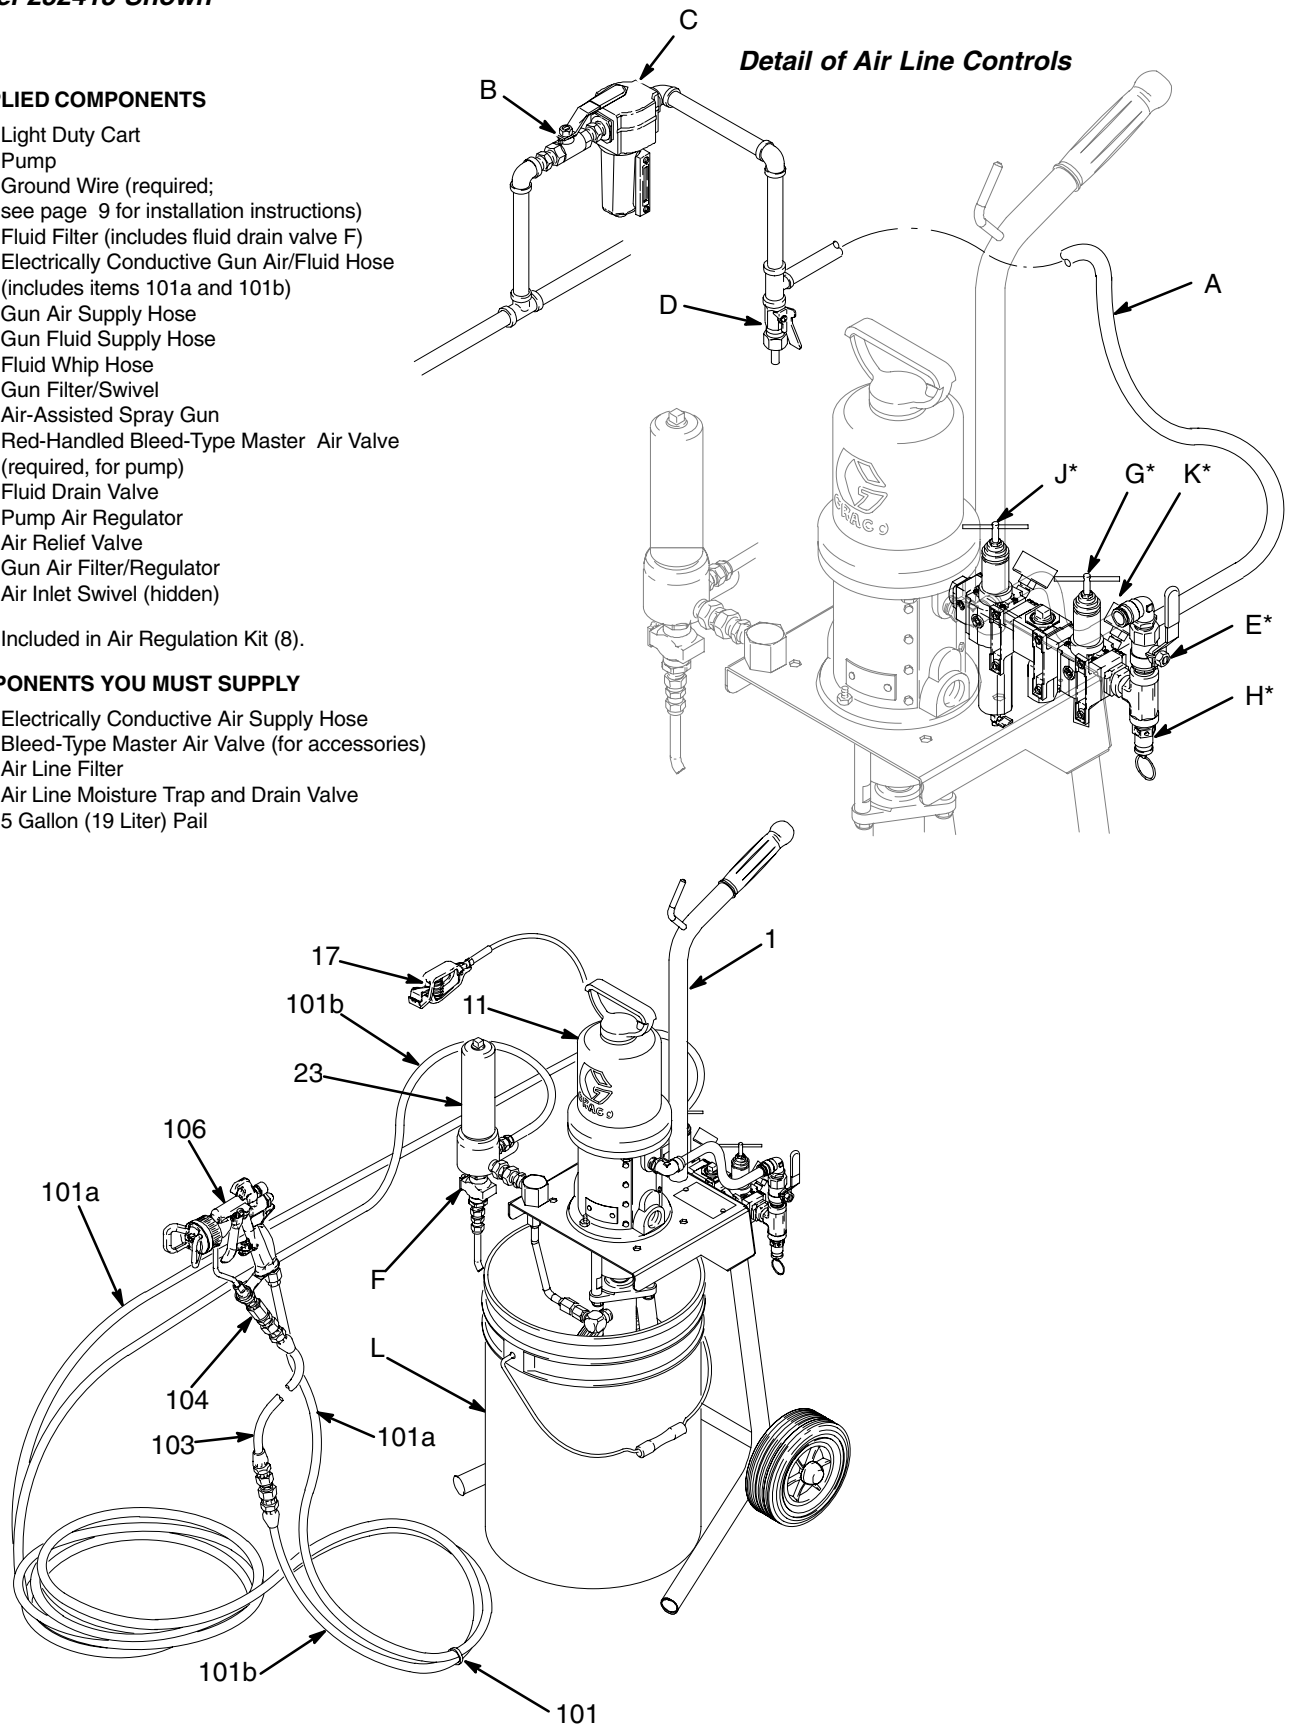

Fig. 1
Fig. 1 is only a guide for selecting and installing system components and accessories. Contact your Graco distributor for assistance in designing a system to suit your particular needs.
Refer to Fig. 1. Bring a compressed air supply line from the air compressor to the pump location. Be sure all air hoses are properly sized and pressure-rated for your system. Use only electrically conductive hoses. The air hose (A) should have a 3/8 npsm(m) thread.
Refer to Fig. 1.